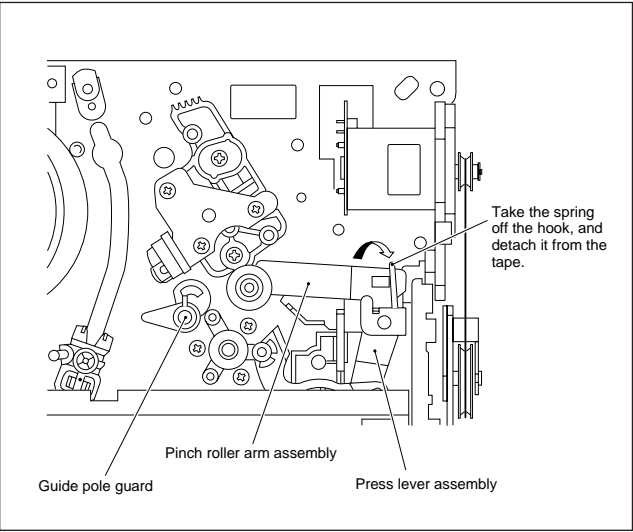

Fig. 2-1-3d
- (3) Take the spring of the pinch roller arm assembly off the hook of the press lever assembly, and detach it from the tape. (See Fig.2-1-3d.)
- (4) In the same way as in the electrical failure instructions in 2.1.3-1(5), remove the top guide.
- (5) Raise the cassette tape cover. By keeping it in that position, draw out the cassette tape case from the cassette holder and take out the tape.
- (6) By hanging the pinch roller arm assembly spring back on the hook, take up the slack of the tape into the cassette.